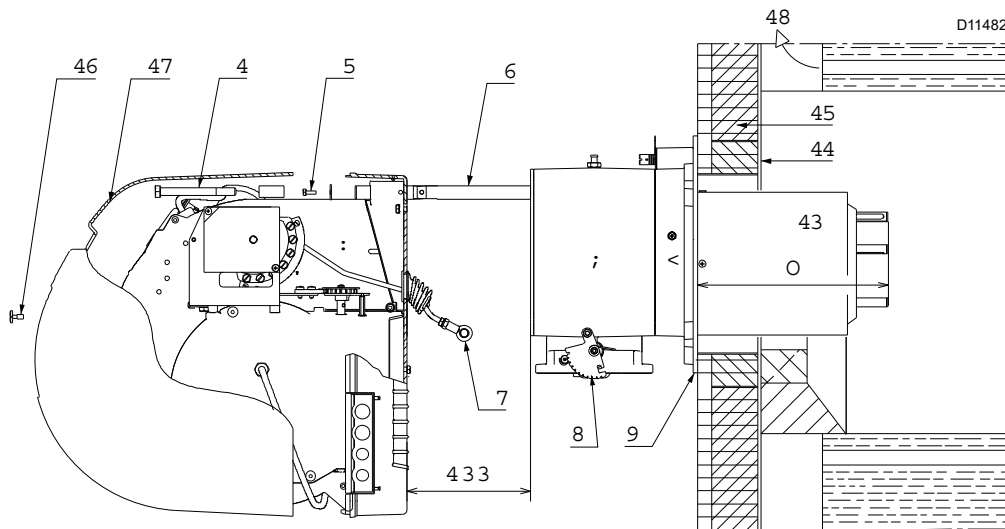
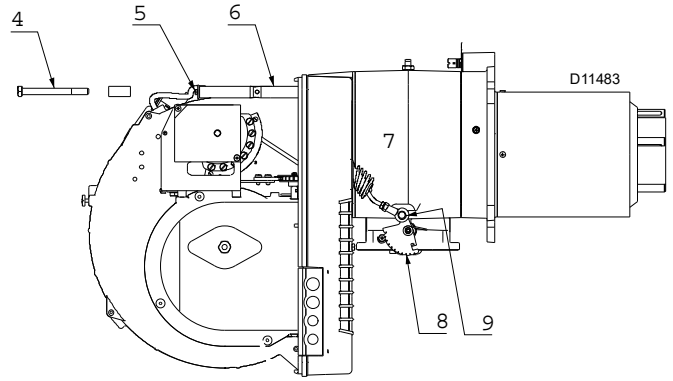

Fig. 10
Fig. 15
For boilers with front flue passes 1) (Fig. 10) or flame inversion chamber, a protection in refractory material 5) must be inserted between the boiler fettling 2) and the blast tube 4).
Separate the combustion head from the rest of the burner, (Fig. 10).
- Fix the flange 9) (Fig. 10) to the boiler plate inserting the supplied insulating gasket 6) (Fig. 10).
Once the head is adjusted, reassemble the burner on the guides 3)(Fig. 15) at about 100 mm from the pipe coupling 4) - burner in the position shown in Fig. 10 on page 14
- Insert the probe and electrode cables, then slide the burner as far as the pipe coupling - burner in the position shown in (Fig. 15).